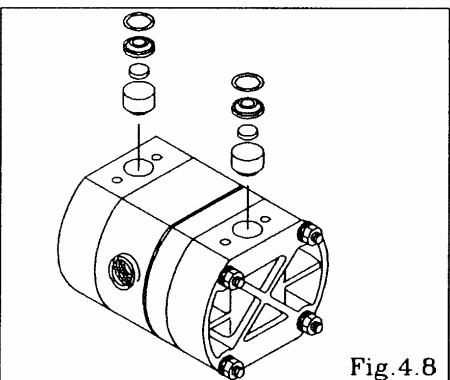

Fig.4.8
- Remove the O ring, valve seat, flat valve and valve stopper. [Fig.4.8]